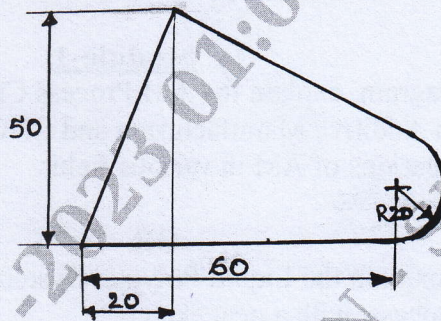

Fig. Q9(b)
b. Write Computer Aided Part Programming (APT) for the Fig. Q9(b). Assume suitable cutting parameters.